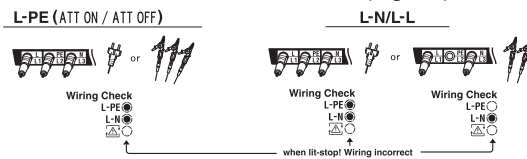

Fig.7-6
(2) Insert the Test Lead into the instrument. (Fig.7-6)
After the connection, ensure that the symbols for Wiring check on the LCD are in the status indicated in Fig.7-6 before pressing the test switch.
If the status of the symbols for Wiring check differ from Fig.7-6